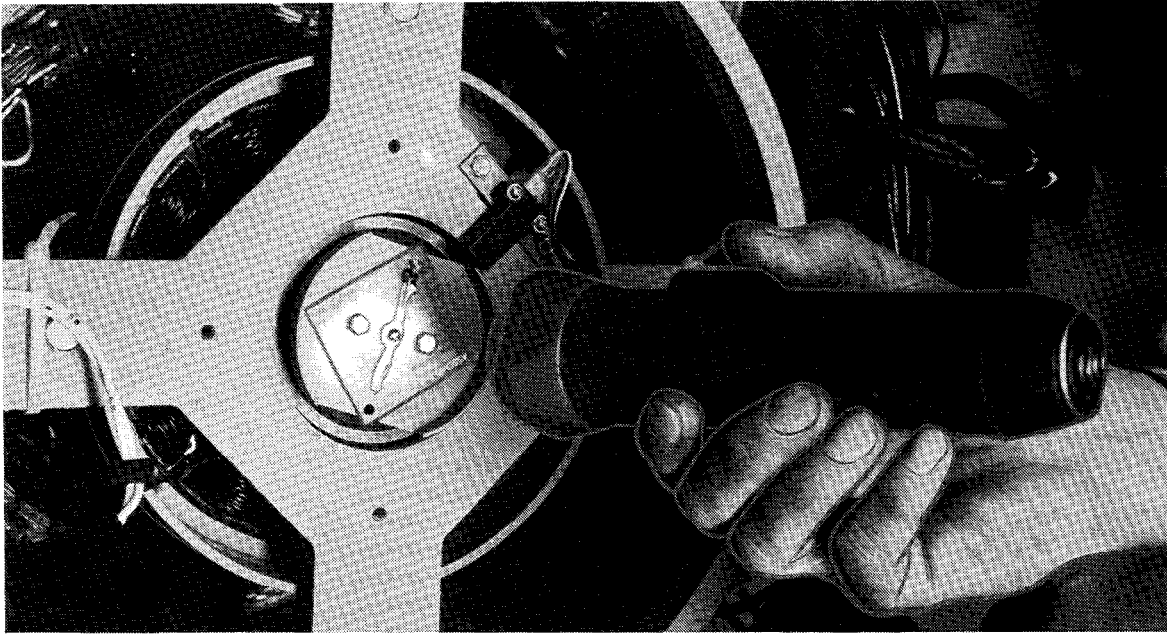

Figure 4-4a. LED Flashlight Test (Generator Equipped with Standard FR Activator)
2. With the generator set running at no load, shine a flashlight on the exposed photo transistor board. See Figures 4-4a or 4-4b.